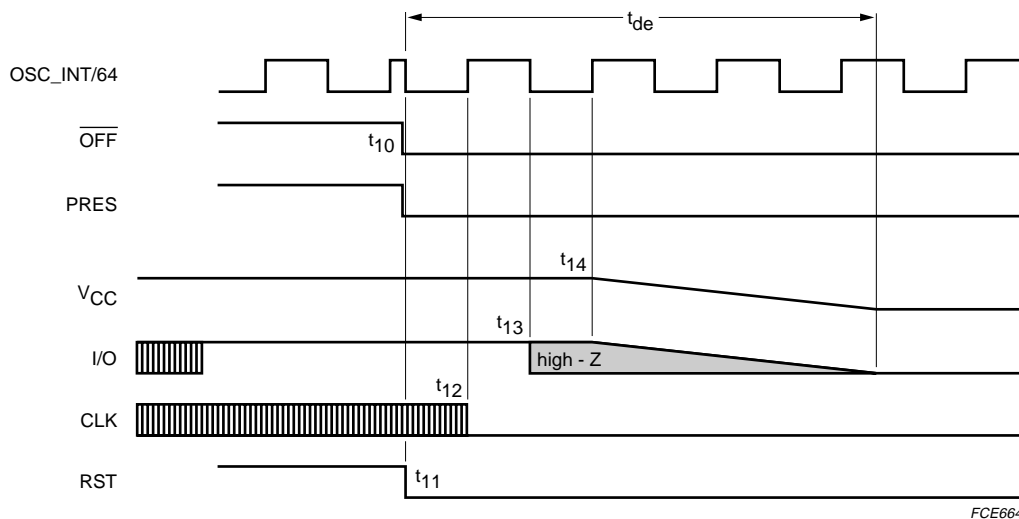

Fig.8 Emergency deactivation sequence.
2.  $\overline{CMDVCC}$  LOW: (within a card session) then,  $\overline{OFF}$  falls LOW if the card is extracted, or if a short-circuit has occurred on  $V_{CC}$ , or if the temperature on the IC has become too high. As soon as the fault is detected, an emergency deactivation is automatically performed (see Fig.8).